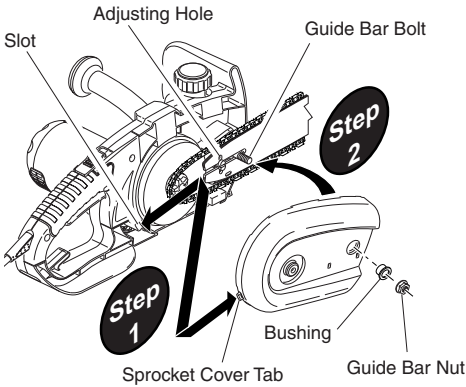

Figure 7 - Installing Sprocket Cover
7. Insert tab of sprocket cover into slot on unibody and rotate sprocket cover onto guide bar bolt until sprocket cover rests against guide bar (see Figure 7, page 8).
- Turning chain tensioning screw, adjust position of adjustment block until it is aligned and inserted into the round adjusting hole on guide bar (see Figures 7 and 8). Turning screw counterclockwise will move adjustment block to rear of guide bar. Turning screw clockwise will move adjustment block to front of guide bar.